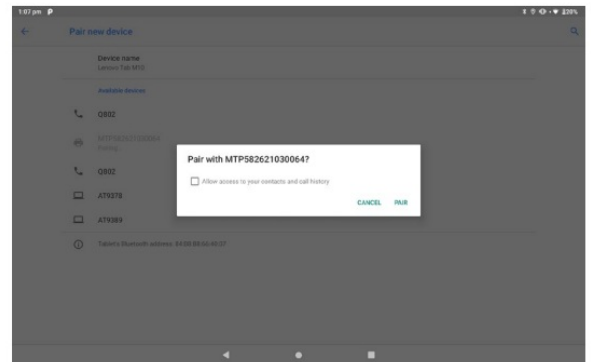

Figure 45
5. Press a device to pair with it (and enter a code if required: check with the device manual for the specific code). (Figure 45)